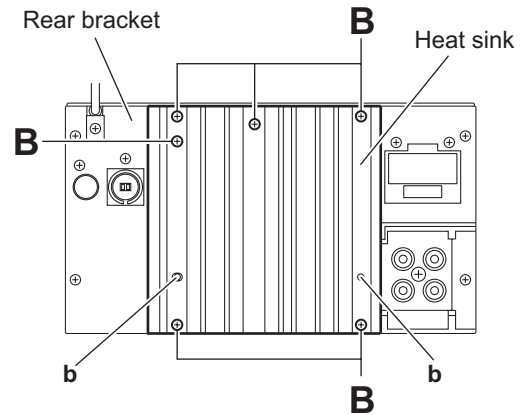

Fig.3
### 3.1.2 Removing the heat sink (See Figs.3 and 4)
- (1) From the back side of the main body, remove the six screws **B** attaching the heat sink. (See Fig.3.)
- (2) Remove the heat sink from the main body.
- When attaching the heat sink, set the projections **b** on the rear bracket in the holes of the heat sink. (See Fig.3.)